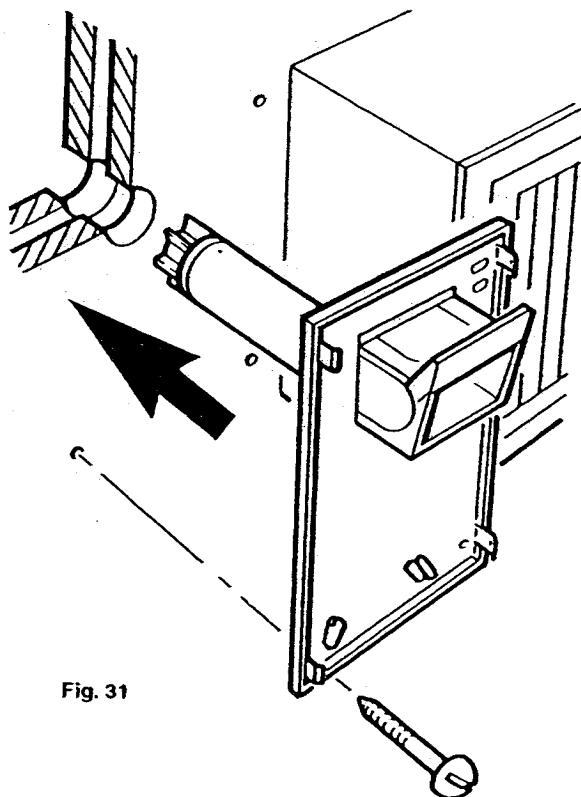

Fig. 31
1. Engage the assembly into the hole previously cut in the wall and slide in place (Fig. 31).
2. Secure the assembly to the wall at the previously drilled anchorage points with suitable screws (Fig. 31). Before finally tightening the screws, check that the assembly is level.